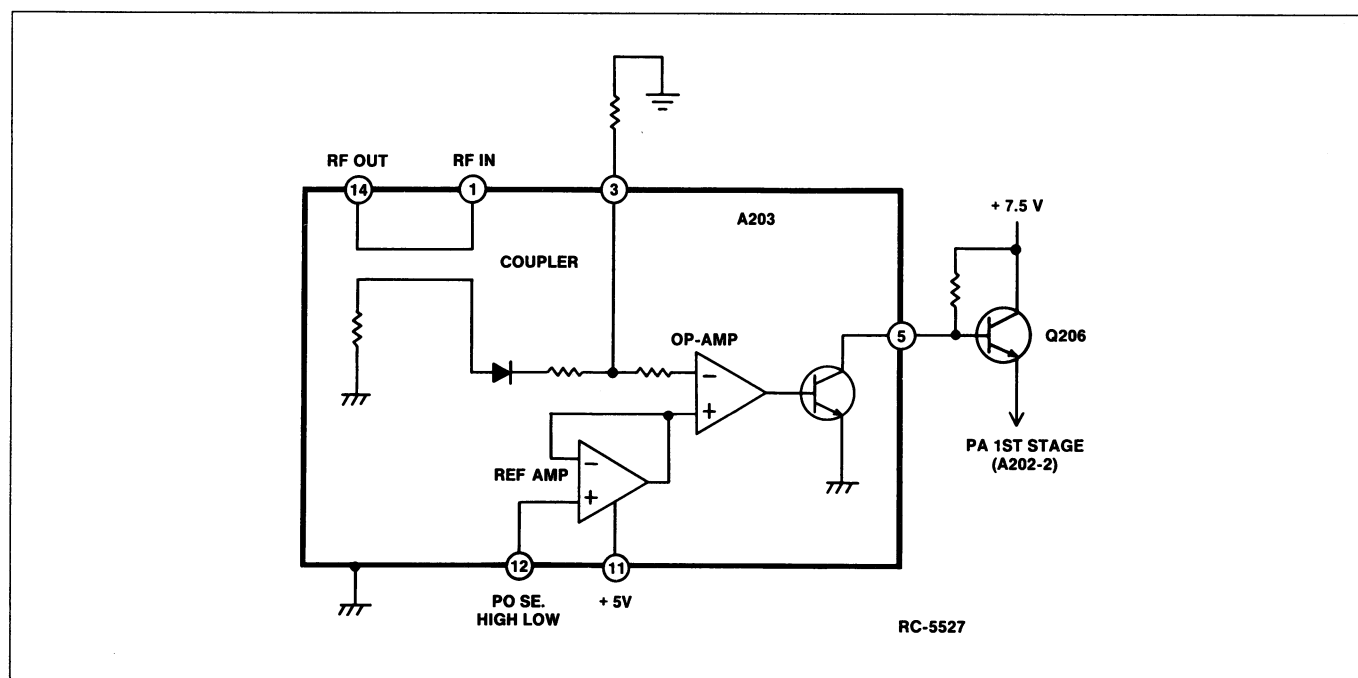

FIGURE 7 - POWER CONTROL MODULE (PC)
The RF power output of the radio is regulated by sensing variations in the RF power output of the transmit PA module to control the supply voltage going to the first stage of the PA module (refer to Figure 7). Supply voltage cannot be applied to the first stage of the PA module until the transmit circuit is keyed, applying 5.4 Volts to Pin 11 of the Power Control (PC) module A203. When the transmit circuit is keyed, the output of a reference amplifier, determined by the High/Low power control, is applied to the positive (+) input of a comparator circuit.